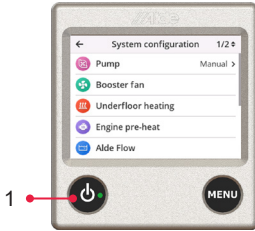

Fig. 3, 1 zone
1. Start the system by pressing the On/Off button on the control panel (Fig. 3, item 1).
- Browse through “System configuration”, activate accessories/functions fitted using their respective menus. (Fig. 3)